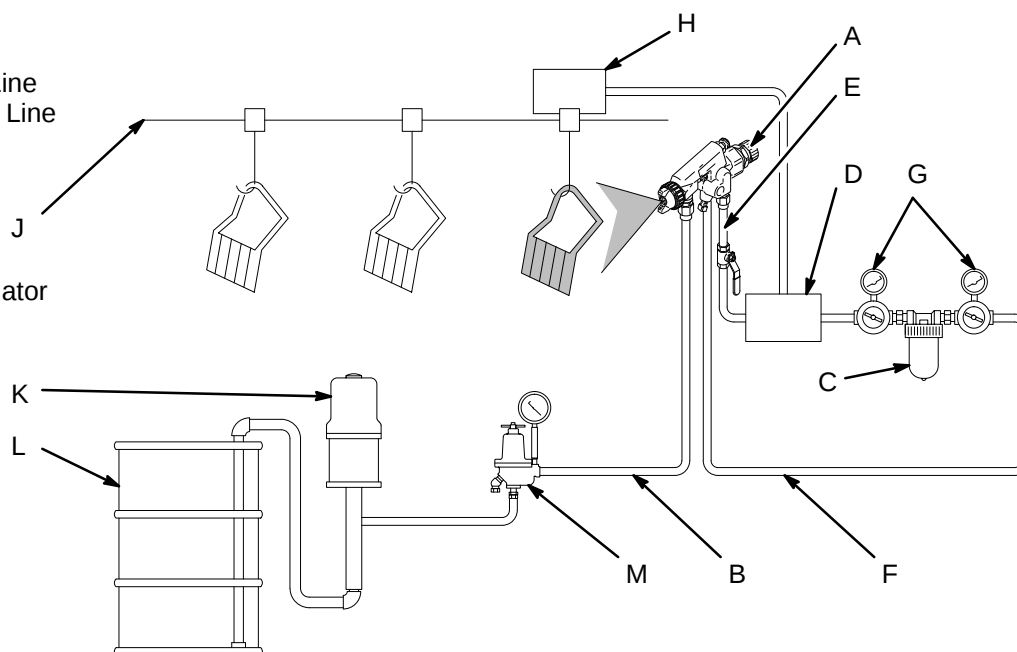

Fig. 1
Adjust the system's sensing device (H) so that the gun starts spraying just before meeting the workpiece and stops just after the piece has passed. See Fig. 1.